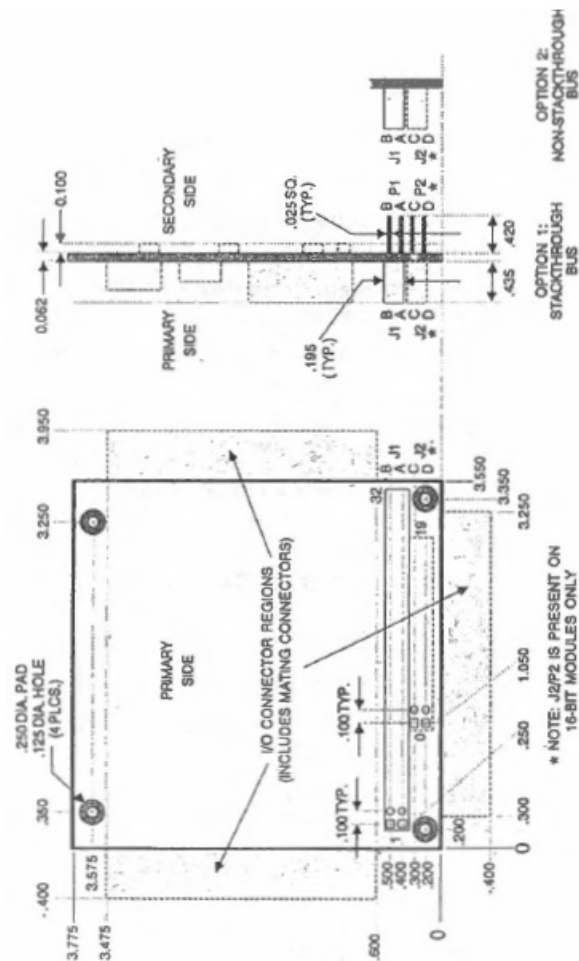

Figure 1. PC/104 Module Dimensions (Dimensions are in inches, ± 0.005)
- Figure 1: PC/104 module dimensions.